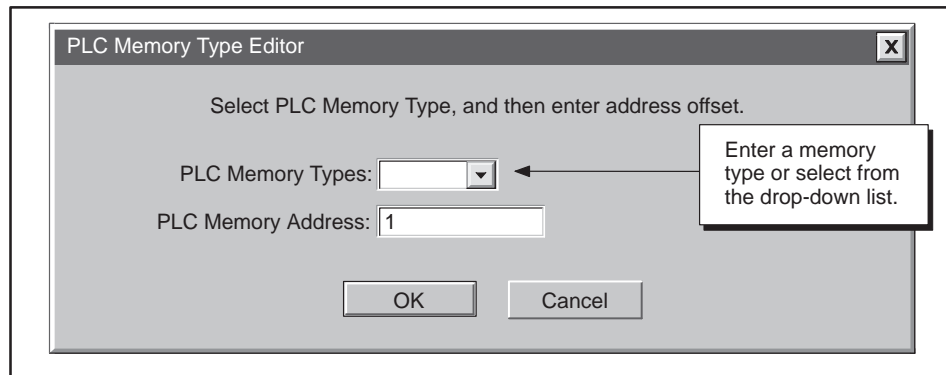

Figure 5-30 PLC Memory Editor Dialog Box
**PLC Memory** When you click on the PLC Memory field, a button appears in the field. Click on the button to view the PLC Memory Type Editor dialog box (shown in Figure 5-30). Select a PLC memory type from the top drop-down menu, enter a PLC memory address in the bottom field, and then select OK. The dialog box disappears, and the PLC memory address is displayed in the PLC Memory field.